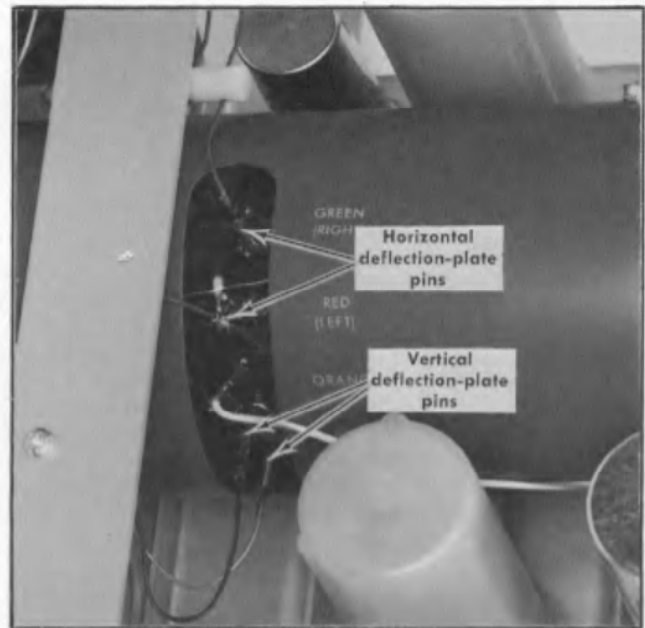

Fig. 5-9. Location of vertical and horizontal deflection-plate neck pins.
- a. Connect the DC voltmeter (set to 300-volt scale) between the two vertical deflection-plate neck pins (BLUE and BROWN leads, see Fig. 5-9). Do not short to the CRT shield.
- d. Connect the DC voltmeter (set to 300-volt scale) between the two horizontal deflection-plate neck pins (GREEN and RED leads, see Fig. 5-9).